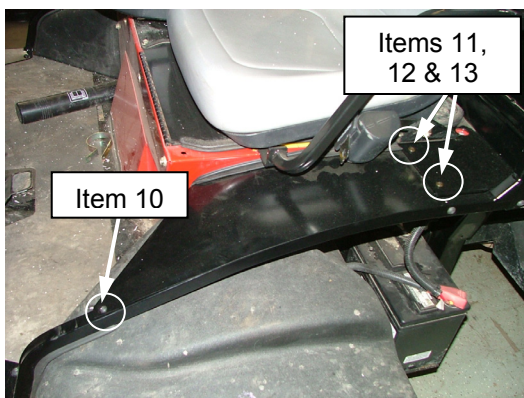

Figure 6
13. Install LH fender panel assembly (Item 4) to LH cab side frame **(Figure 6)**. Secure using;